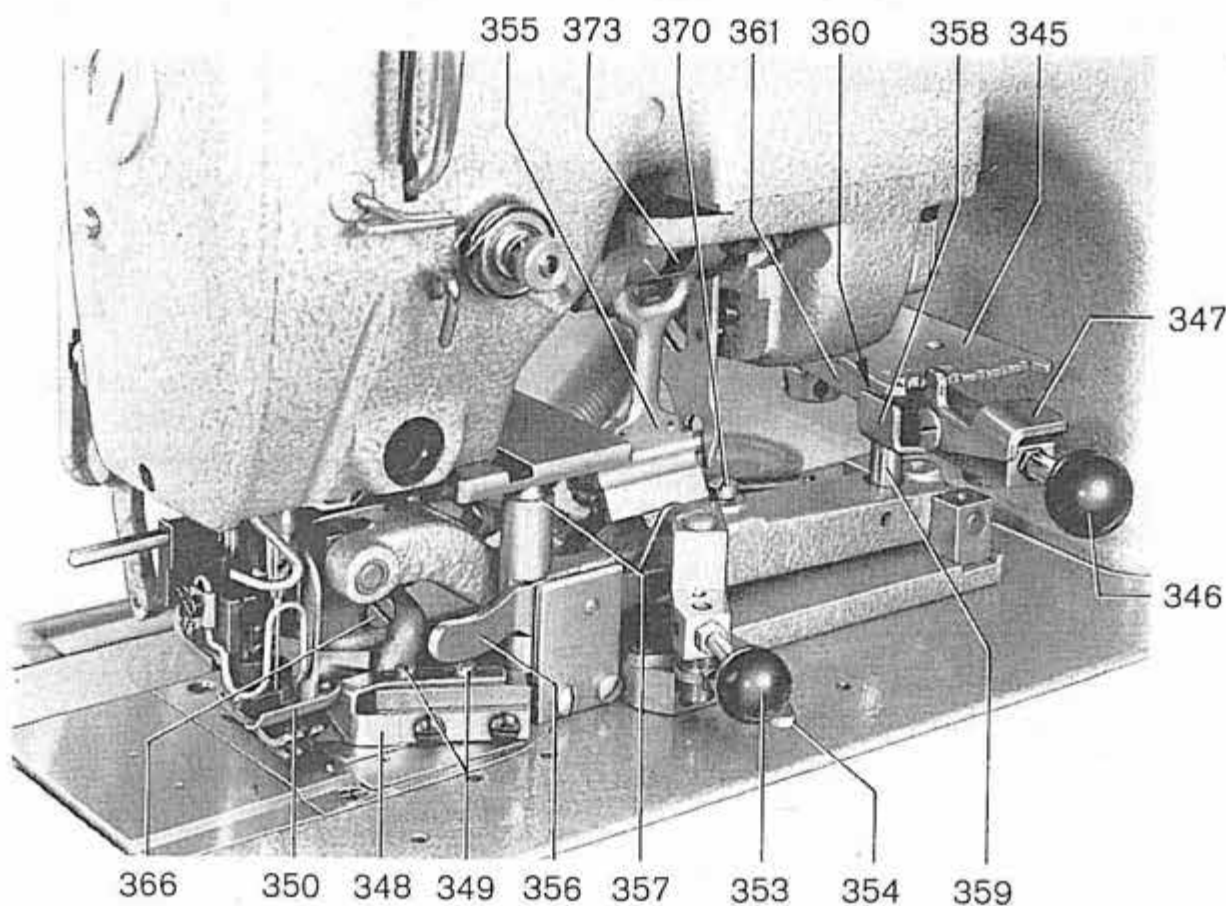

Fig. 47
The pinking depth, i.e. the distance between the seam and the tooth valley is adjustable by the hand lever 346 in graduations, shown on the scale of the notch plate 345 (fig. 47). For unlocking, lower the stop lever 347.
The cloth edge guide 348 (fig. 47) can be reset in its oblong holes after loosening the fastening screws 349.
The cloth holder 350 (fig. 47) is coupled with the pinker. When modifying the pinking depth, the cloth holder is reset automatically. After swinging the pinker to the rear ensure when returning the pinker to its initial position that the lever of the cloth holder is located in the notch 351 (fig. 48) of the fork 352.
For disconnecting the pinker, move hand lever 353 (fig. 47) to the right. Thus it is possible to interrupt the pinking while sewing. The locking lever 354 will snap. For connecting the pinker push said lever to the left.
4. Swing the pinker so that the spherical head 362 (fig. 48) of the control cam 363 can be pushed out of the guide of the lifter rod 355 (fig. 47) to the right.
First remove the lower knife 364 (fig. 48) by tacking out the fastening screws, then loosen the locking screw 366 (fig. 47) and pull the upper knife 367 (fig. 48) out of the guide.
Lowest point of the lifter rod 355 (fig. 47).
There should be no play between the spherical head 362 (fig. 48) of the control cam 363 and the lifter rod 355 (fig. 47). The spherical head should press under the guide.
This setting can be obtained by the reciprocal adjustment of the upper knife level (loosen locking screw 366, fig. 47) and of the position of the control cam 363 (fig. 48) (the regulating screw of the cam is accessible from the bottom of the pinker). Set the control cam 363 at such a level that also with the minimum distance between the pinker and the needle (5 mm) the spherical head is still fully in the guide of the lifter rod.
This adjustment can be made by turning the eccentric 373 (fig. 47) after loosening its fastening screw.